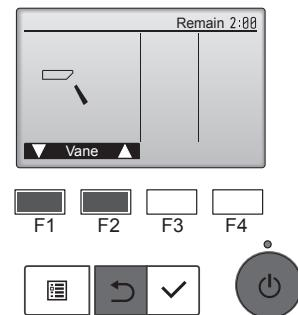

Fig. 6-7
- ① Check the auto vane with the [F1] [F2] buttons. (Fig. 6-7)
- ② Press the button to return to "Test run operation".
- ③ Press the  button.